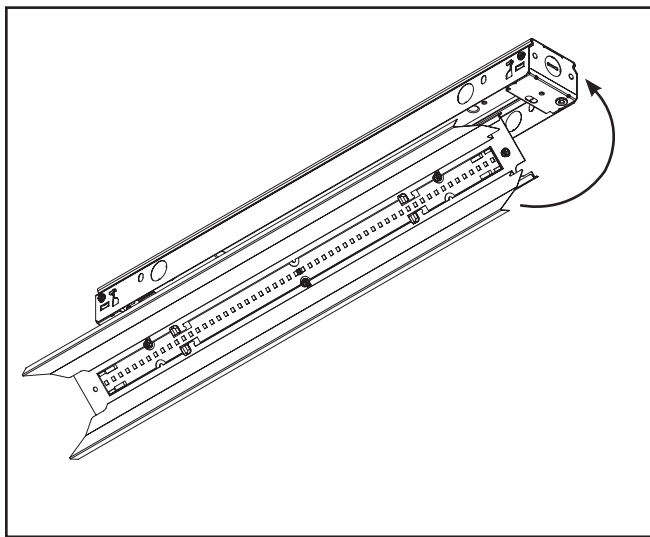

Figure 3.
3. Close channel cover. (Figure 3.)